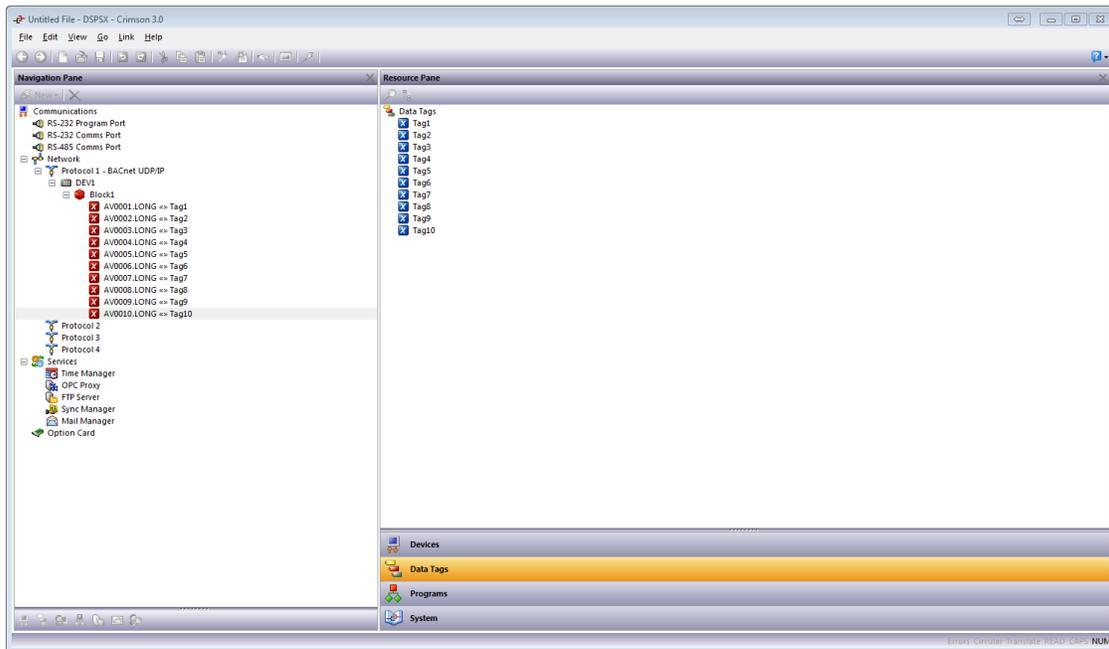

Figure 16.
16. Referring to Figure 16, drag each tag from the Resource Pane to the Navigation Pane and drop it on the address with which it will be associated.